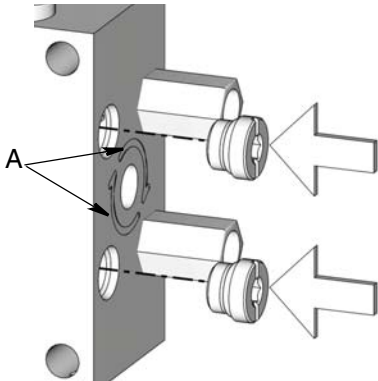

FIG. 3
2. Plug outlet using Graco doubling plug accessory part number 24F467 (FIG. 3).
Lubricant from the plugged outlet/s is redirected to the next outlet on USP divider block flowing in a clockwise order, following direction arrows (A) stamped on block (see FIG. 3).